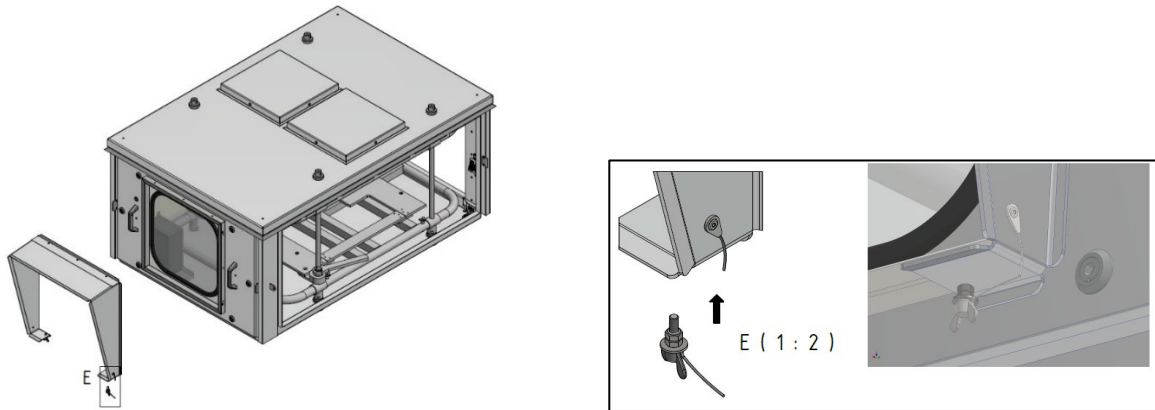

Figure 21: Installation of the rain cover
- Place the rain cover of the front panel on the top of the assembled frame (Figure 21).